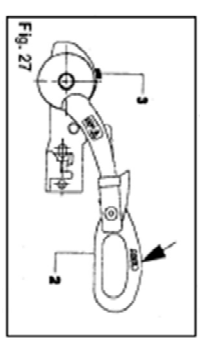

Fig. 27
To operate the Stabiliser (once coupled to the towball), simply press the stabiliser lever down as far as it will go (Fig. 27/Item 2).
**Warning:** The coupling is correctly engaged when the green edge of the safety indicator button is visible (Fig. 27/Item 3).